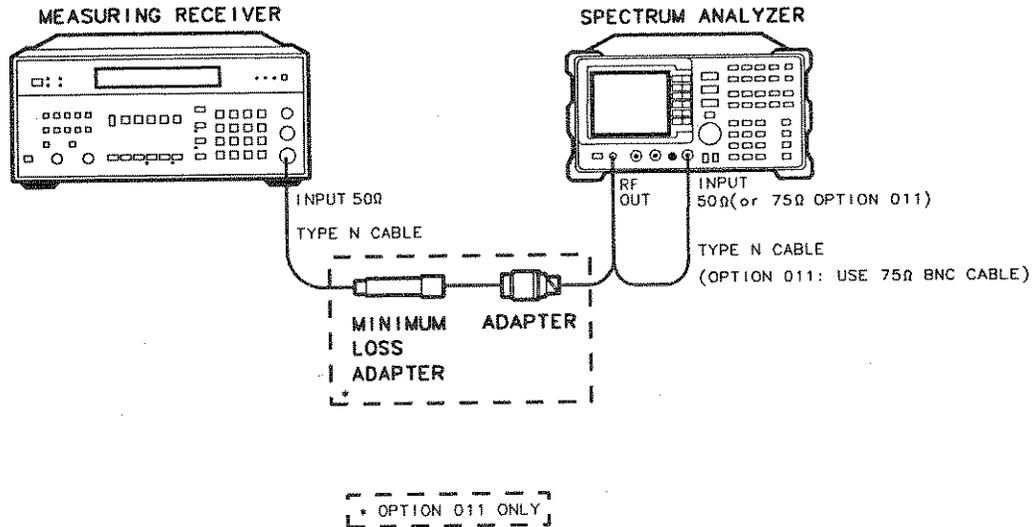

Figure 3-27. Output Attenuator Accuracy Test Setup
1. Connect the equipment as shown in Figure 3-27 with the Type N cable connected between the RF OUT 50Ω and the INPUT 50Ω connectors.